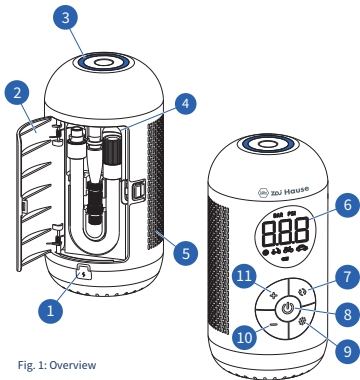
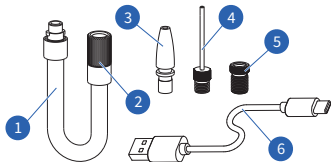

Fig. 1: Overview
Fig. 2: Accessories
Schrader valve (Fig. 2/2): The air pump can be directly connected to a schrader valve, e.g., for tires of cars, motorcycles, e-bikes or most mountain bikes.
Plastic nozzle adapter (Fig. 2/3): The plastic nozzle adapter is used, e.g., for various toys, air beds or rubber rings.
Needle valve adapter (Fig. 2/4): The needle valve adapter is used, e.g., for balls such as basketballs or footballs.
Presta valve adapter (Fig. 2/5): The presta valve adapter is used, e.g., for tires of bicycles or certain mountain bikes.
1. Insert the charging cord (Fig. 2/⑥) into the charging socket (Fig. 1/①) and ensure that it is fully connected (Fig. 3).
The battery level indicator on the display (Fig. 1/6) has different colours to indicate the air pump's remaining battery level.
1. Open the backside lid (Fig. 1/ 2 ).
2. Take the air hose and the air valve adapter out of the case (Fig. 1/ 4 ).
- On the top of the tool, there is a ring LED light (Fig. 1/ 3), which can be switched on/off.